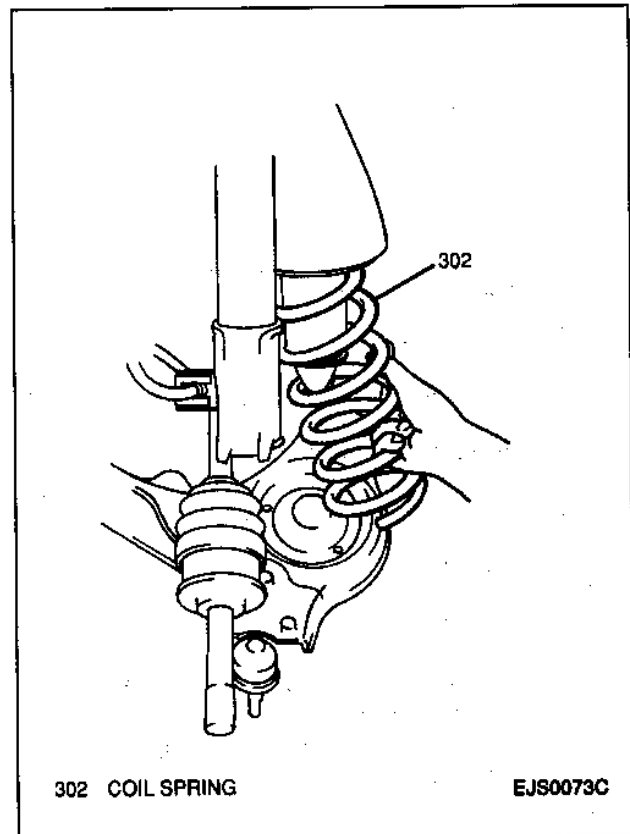

Figure 7—Removing Coil Spring
8. Coil spring from vehicle (Figure 7).
9. Coil spring from vehicle (Figure 7).